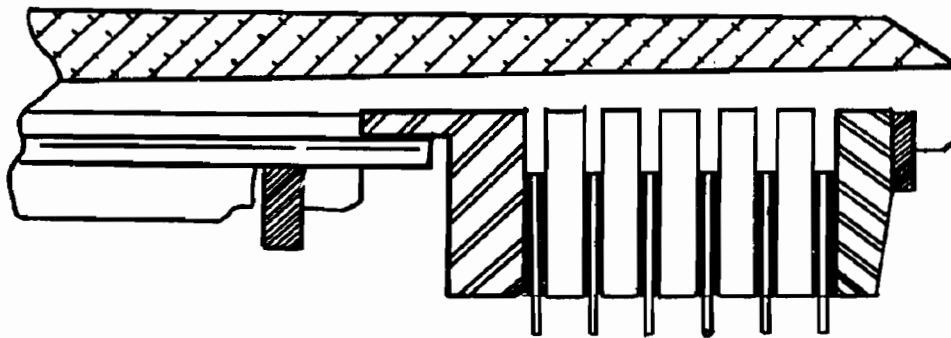

Figure 15
**CHANGE:** Beginning on January 5, 1993 (Julian Date 005) all THM 4L60 and 4L60-E transmissions were built with a redesigned 3-4 clutch assembly. The 3-4 steel plates were made thicker to dissipate more heat out of the 3-4 clutch pack (See Figure 15).
- (1) None of the components listed above are compatable with the previous components in the 3-4 clutch pack (See Figure 15).
- (2) The new 3-4 clutch pack will retro-fit back to all previous models but **MUST** be replaced as a package. Service package part numbers are listed below. There are two different part numbers because the "Lined" plates are included in the service packages and the lined plates are calibration sensitive on the different models.